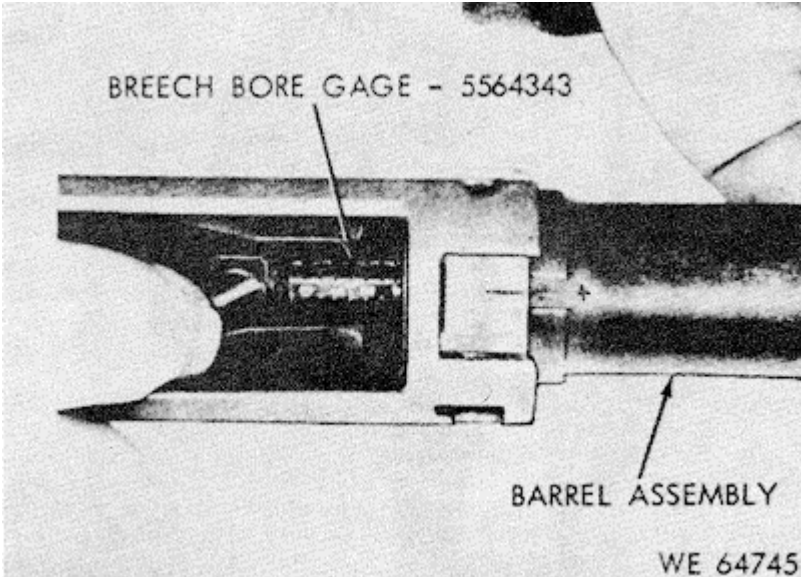

Figure 3-10. Gaging of breechbore.
d. Check breechbore (fig. 3-10).